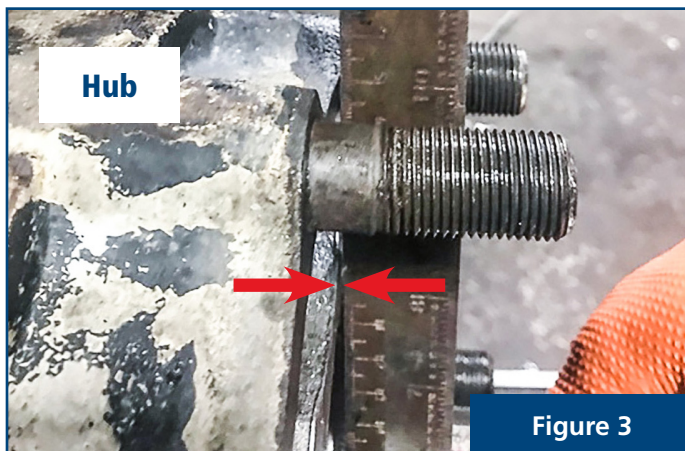

Figure 3
3. If the straight edge does come in contact with the Zip-Torq®, remove the Zip-Torq® and replace with a Pro-Torq® (See Figure 3)